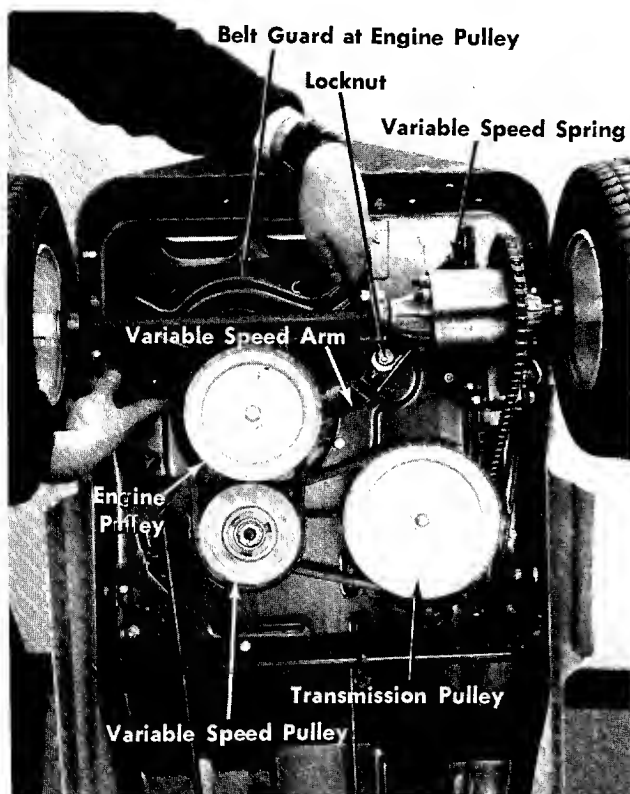

FIGURE 20. ENGINE BELT GUARD REMOVAL
Step 4. Remove the belt guard at the engine pulley. See figure 20.
Step 5. Remove the nut and lockwashers at the transmission pulley and variable speed pulley. See figure 20.
Step 6. Remove the locknut at the variable speed arm and lift off the spring. See figure 20.